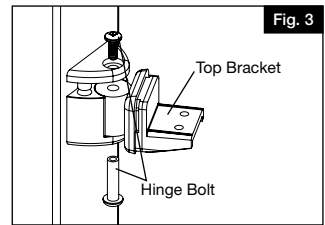

Fig. 3
Temporarily assemble top and bottom stair mounting brackets. Brackets slide into bracket bases, bracket cover is aligned, and the bracket is fastened together using the hinge bolt provided (Fig. 3 & 4).
- a. Temporarily assemble top and bottom level angle brackets. Mounting brackets slide into bracket base, bracket cover is aligned, and the bracket is fastened together using the hinge bolt provided (Fig. 3).